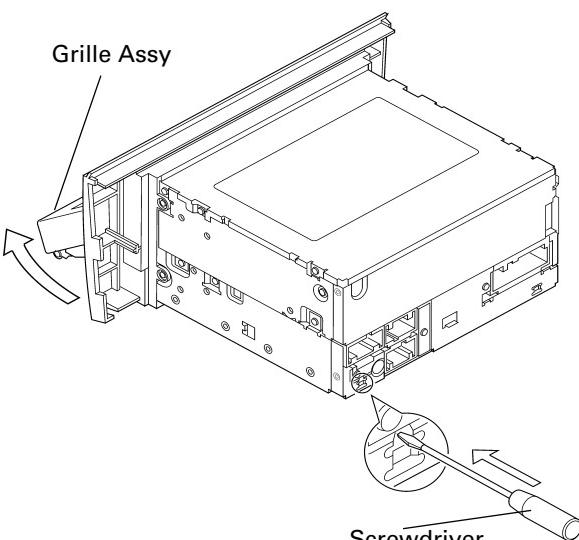

Fig.1
- A 1. Insert a screwdriver into the hole on the back of the unit and press it straight in the direction of the arrow as shown in Fig. 1.
2. Press and open the Grille Assy to the maximum extent with your hands.(Fig.1)